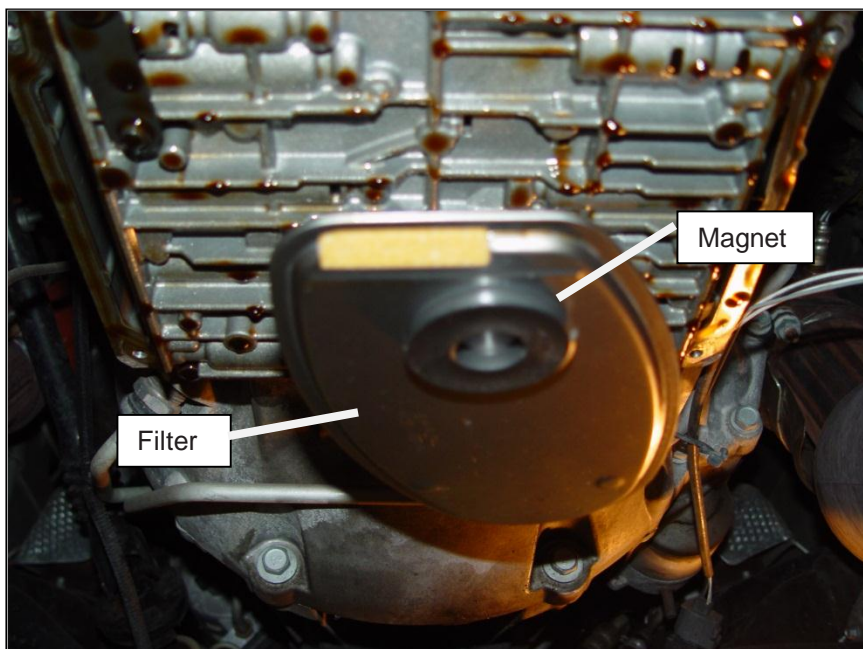

Figure 5
**STEP 10.** Stick the magnet removed earlier on the bottom of the transmission filter as shown (See Figure 5).